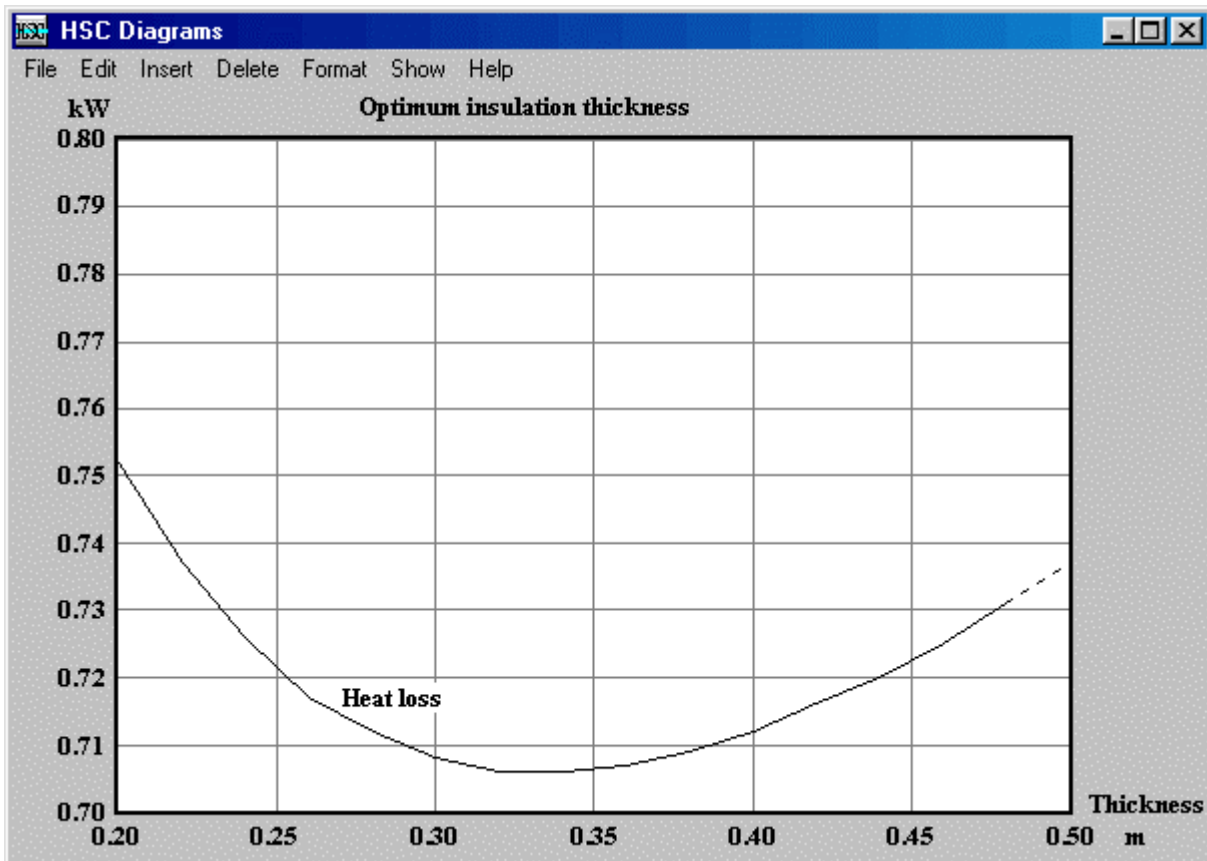

Figure 15: Diagram showing the theoretical optimum side wall insulation thickness for a cylindrical hot water tank.
9. Press **Diagram** again in the **Diagram table** window. The final diagram should look similar to Figure 15. The theoretical optimum insulation thickness is now roughly 33 cm.